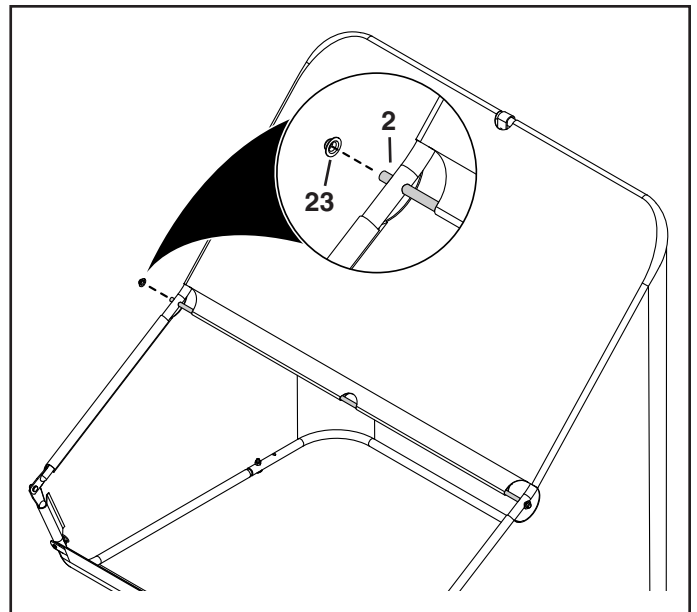

FIGURE 16
27. Slide the pivot rod (2) through the flap in the bag's windscreen first and then through the hole in each upper hopper tube. See figure 16.
28. Hammer a palnut (23) onto each end of the pivot rod. See figure 16. **HINT:** Place the bag on its side on a hard surface to make installation of palnuts easier.